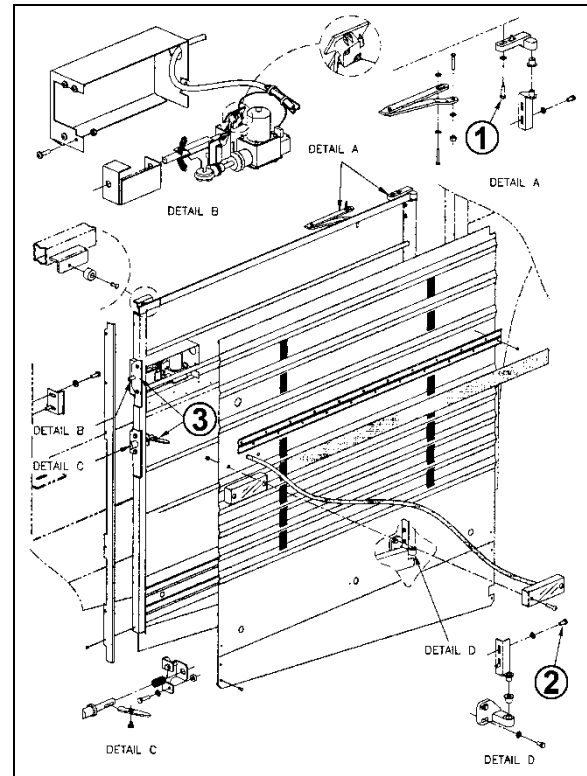

FIGURE 38: ENGINE COMPARTMENT R.H. SIDE DOOR
1. Loosen the bolts, (1, Figure 38) holding the hinge to the vehicle structure to shift the door "LEFT or RIGHT".
2. Loosening the bolts (2, Figure 38) allows the door to be shifted "UP or DOWN".
To adjust the latch mechanism (3, Figure 38) and the striker pin: